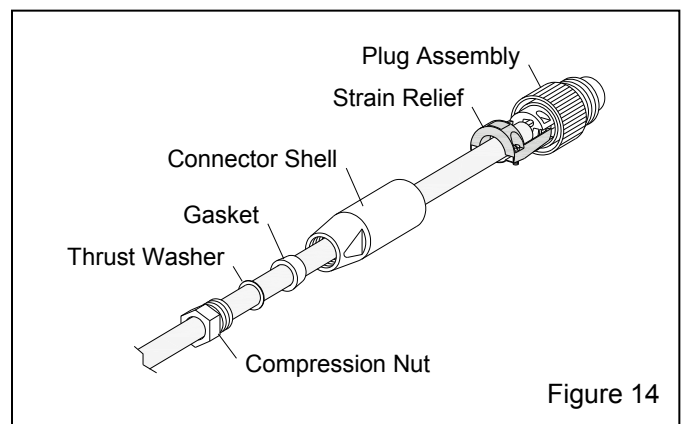

Figure 14
**4.7.1 Replace lo-profile connector – Figure 14**